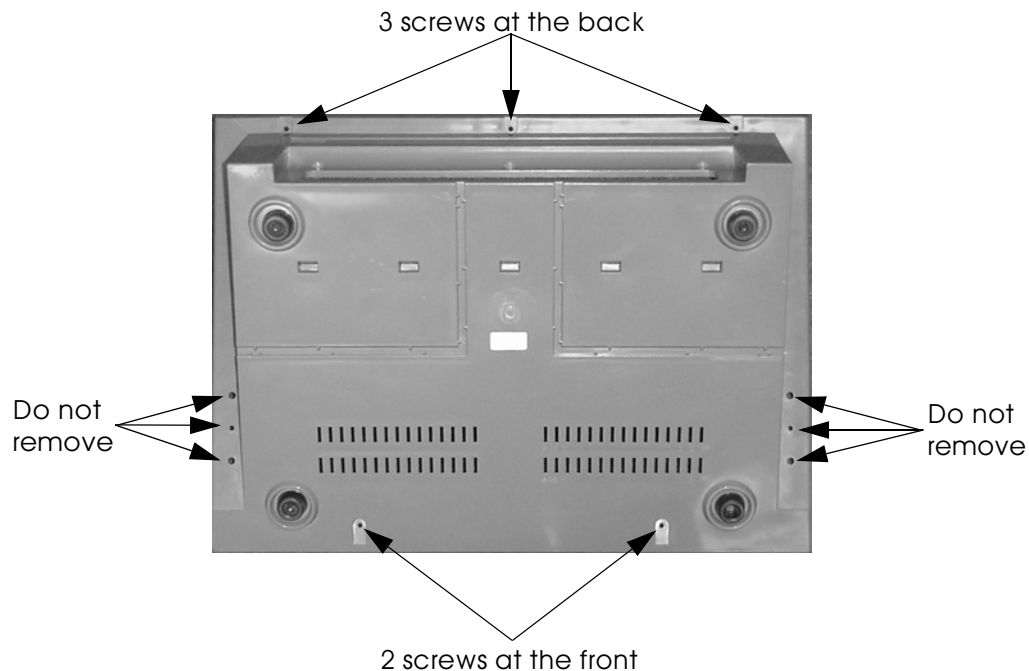

Figure 6-1: Location of Desktop Assembly Screws on Bottom of Console
1. The top of the Desktop assembly is held to the bottom part with five (5) pan head Phillips screws; three (3) at the back, and two (2) at the front, as shown in Figure 6-1. The Phillips screws can be reached from the bottom of the Desktop assembly. Remove the five (5) Phillips screws.
3. Move the unit into a position that allows you to insert and tighten the five pan head Phillips screws at the bottom of the console. Figure 6-1 shows the location of the screws.